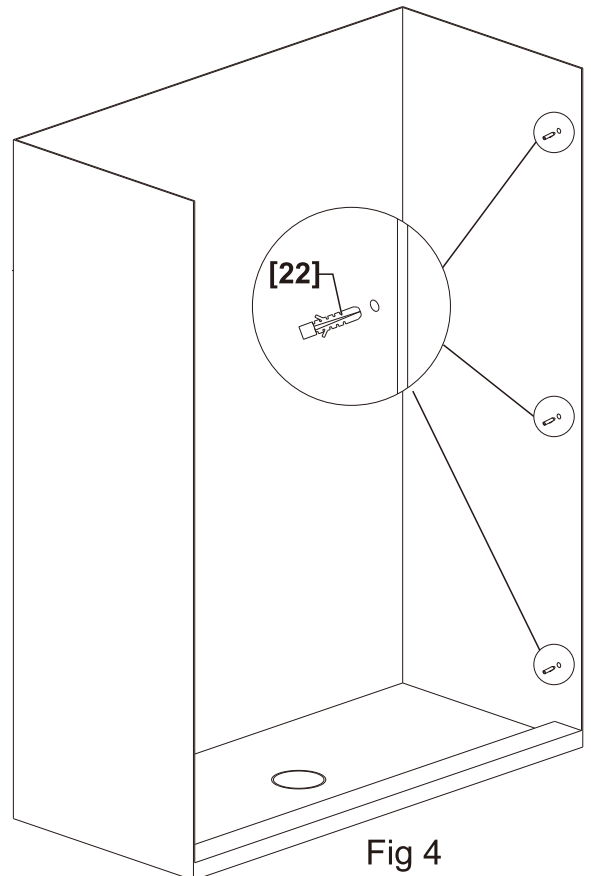

Fig 4
3. To reduce risk of property damage, the use of metal hammers is not recommended. If needed, use drill to slightly enlarge the opening of the hole (Fig. 4).